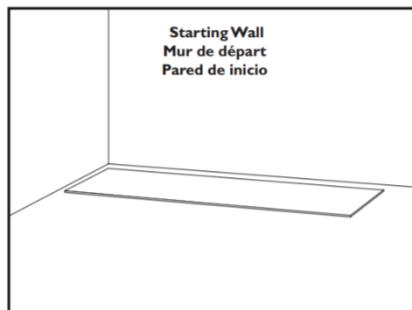

Fig. 2 Left corner of starting wall
- Most installations will start along the longest straight wall in the room. The planks will be installed starting in the corner of the room on the left side of the starting wall (as you are facing it). (Fig. 2)